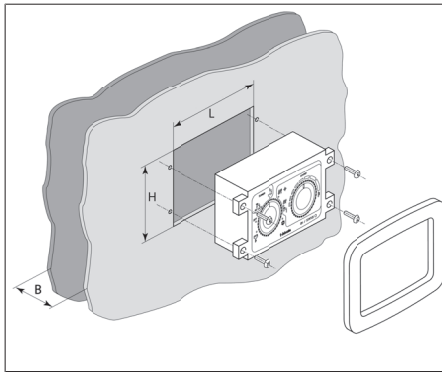

Fig. 50 Installing the manual control panel
5. Cut the aperture in the desired installation location (see Fig. 50).